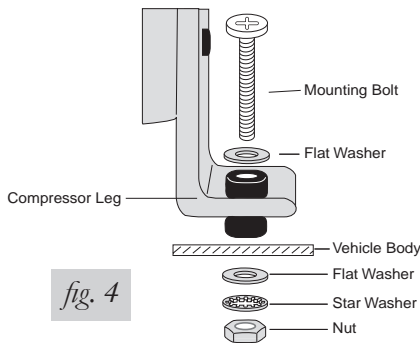
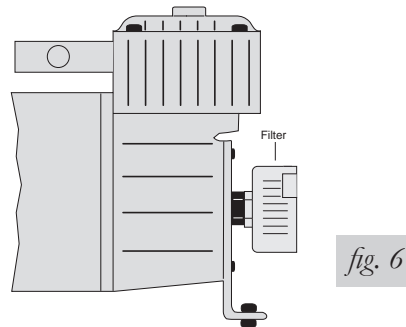

fig. 2
fig. 3
1. Select a rigid, protected, convenient mounting location for the compressor (B) under the vehicle (Fig. 2) or in a storage area (motorhomes) (Fig. 3). The location selected should shield the compressor from the elements.